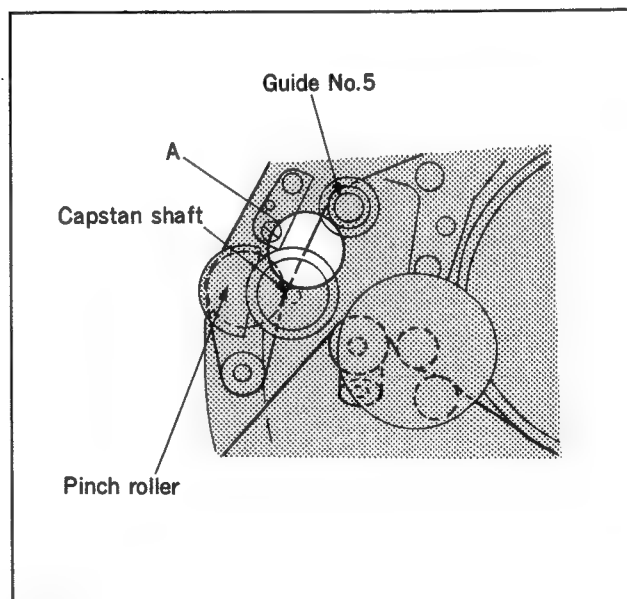

Fig. 6-5-2 Tape wrinkle check
2. Check that tape has no wrinkle between the Guide No.5 and pinch roller at all times. (See Fig.6-5-2.)